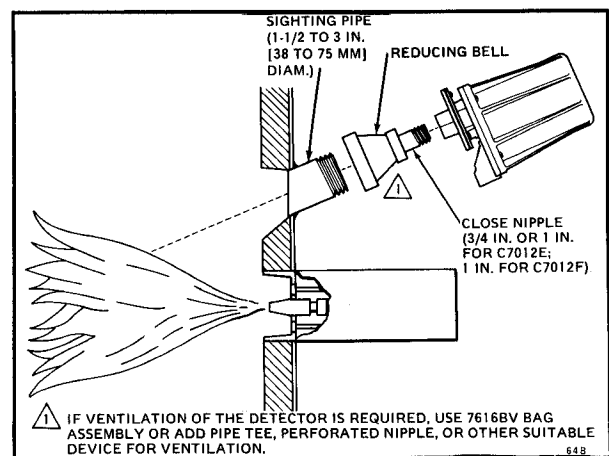

FIG. 5—TYPICAL MOUNTING OF THE C7012E,F.
1. Detector must have a completely unobstructed view of whichever flame is to be proven (Fig. 5).
Install a reducing bell and a close nipple as shown in Fig. 5. The C7012E requires a 3/4 or 1 inch close nipple; the C7012F, a 1 inch nipple.